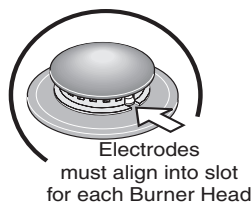

Figure 6B
4. Match the letters stamped on Burner skirts with Burner Heads and Burner Caps on cooktop. Carefully align the Electrodes into slots of the Burner Heads (Figure 6B). Note: The Burner Heads should sit flat on Cooktop Burner Skirts.